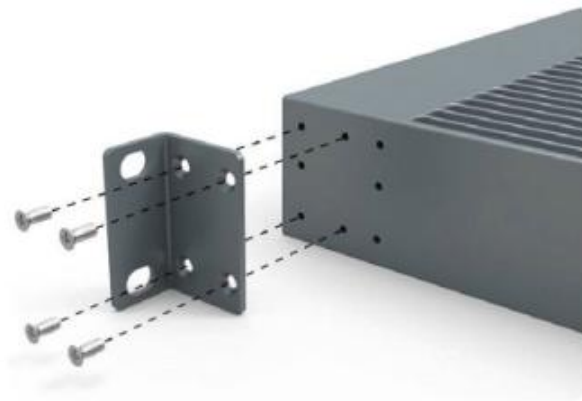

Figure 2. Attaching a 19" Mounting Bracket
1. Attach the 19" mounting brackets at the front of the A2, using 4 screws M3×16 per bracket and the Phillips screwdriver. Observe the orientation of the brackets (Figure 2).